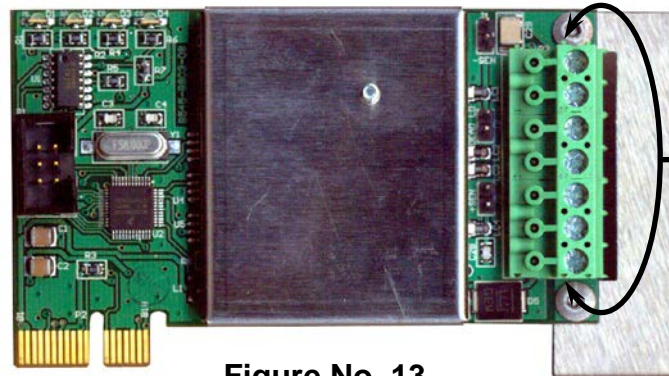

Figure No. 13
5. Remove the 7-conductor terminal from the 825-SIB. (Hold the board in place, grasp the terminal block connector, and lift straight up away from the board). See Figure No. 13.
7. To terminate a wire, loosen the screws in the terminal block and then insert the wire into the terminal opening. Tighten the screw to secure the wire in place. See Figure No. 13.